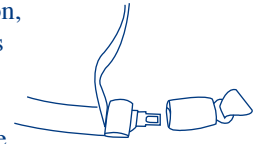

Fig. 18-1
- i) A lap belt that is manually adjusted and will remain tight while the vehicle is in motion is suitable for use with the Safety Seat. Pulling the belt through the buckle after the buckle is fastened tightens this type of seat belt. The center rear seat belt is most often this type of seat belt (Fig. 18-1).